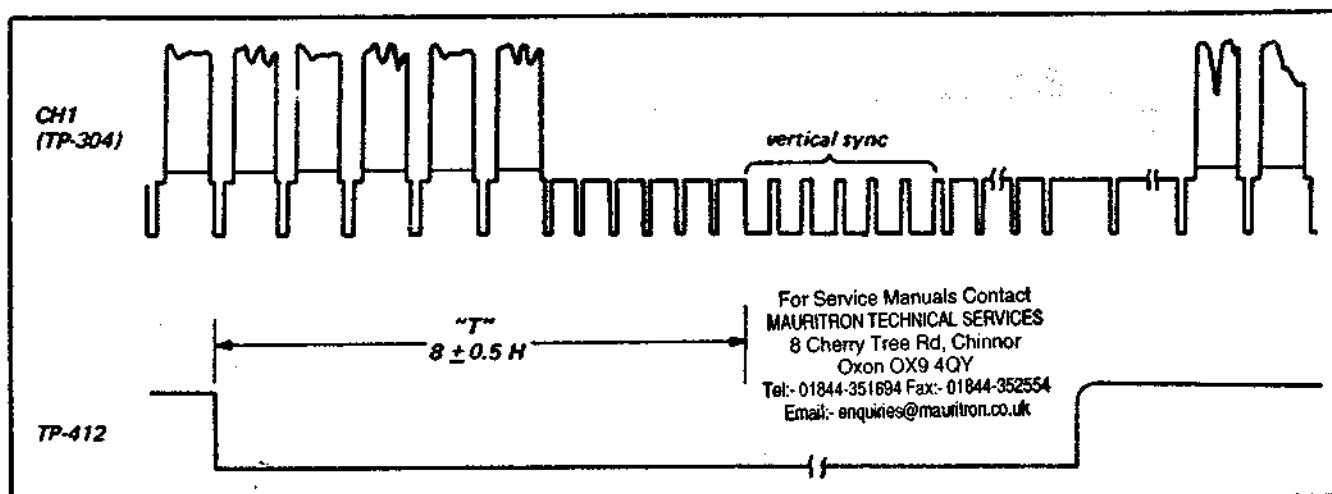

Fig. 6-7. 25 PG coil position
See Fig. 6-7
4. Pull out the 5X magnifier and adjust the POSITION control to observe the second vertical blanking interval as shown in Fig. 6-7.
5. Check that the interval "T" shown in Fig. 6-7 is $8 \pm 0.5 H$ (horizontal lines).
8. Loosen the screw securing 25 PG Coil A, and reposition the coil. If "T" in Fig. 6-7 is more than $8 \pm 0.5 H$, move the coil slightly to the left (in the direction of scanner rotation). If "T" is less than $8 \pm 0.5 H$, move the coil to the right. Be very careful when adjusting coil position. Make sure that the gap between the coil poles and the rotating pole piece remains the same. Also, make sure that the coil poles and the rotating pole pieces line up when viewed from above.